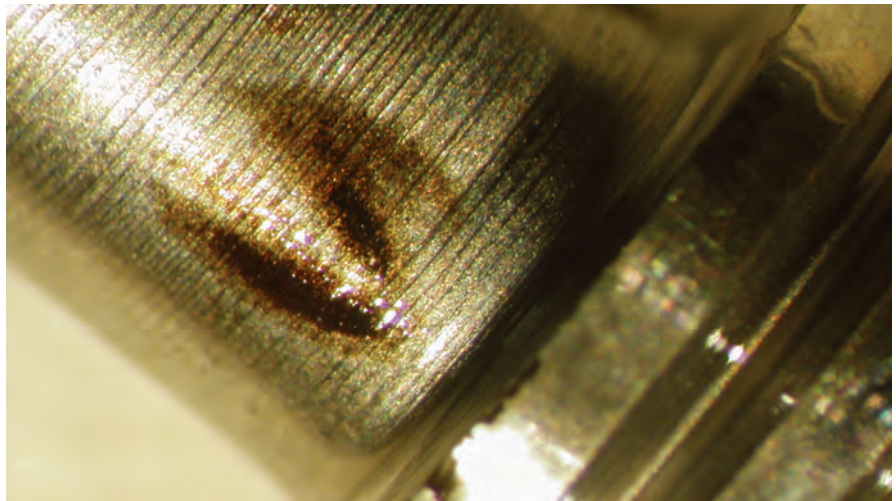

Fig.6—Deposit on servo.
- Dissolved contaminants, including fluid break down products, accumulate over time and eventually come out of solution to form deposits on servo valve components (see Figures 6 & 7). This contamination is not normally measured, and when present, frequently impairs servo valve response time, and presents an elevated risk of servo valve malfunction and or failure (see Figure 3).
While Fuller’s Earth and Selexsorb® filters have been widely used as acid removal filters in phosphate ester based EHC fluid applications, an entirely new level of EHC fluid purification is available through the use of ICB™. ICB™ is a specialized Ion exchange product developed by EPT™ that not only removes acids, but more importantly removes the dissolved contamination responsible for servo-valve sticking (Figure 6). This contamination is normally hidden in the EHC fluid as it is not tested as part of routine fluid analysis. In Figure 10, results of a Depositing Tendency Test are shown. In this test, EHC fluid is mixed with Hexane which forces dissolved contamination out of solution so that it can be viewed. In the first 3 test tubes, EHC fluids using conventional treatment form visible solids when mixed with hexane, while samples 4 and 5 that have been cleaned with ICB, show that this contamination has been eliminated.